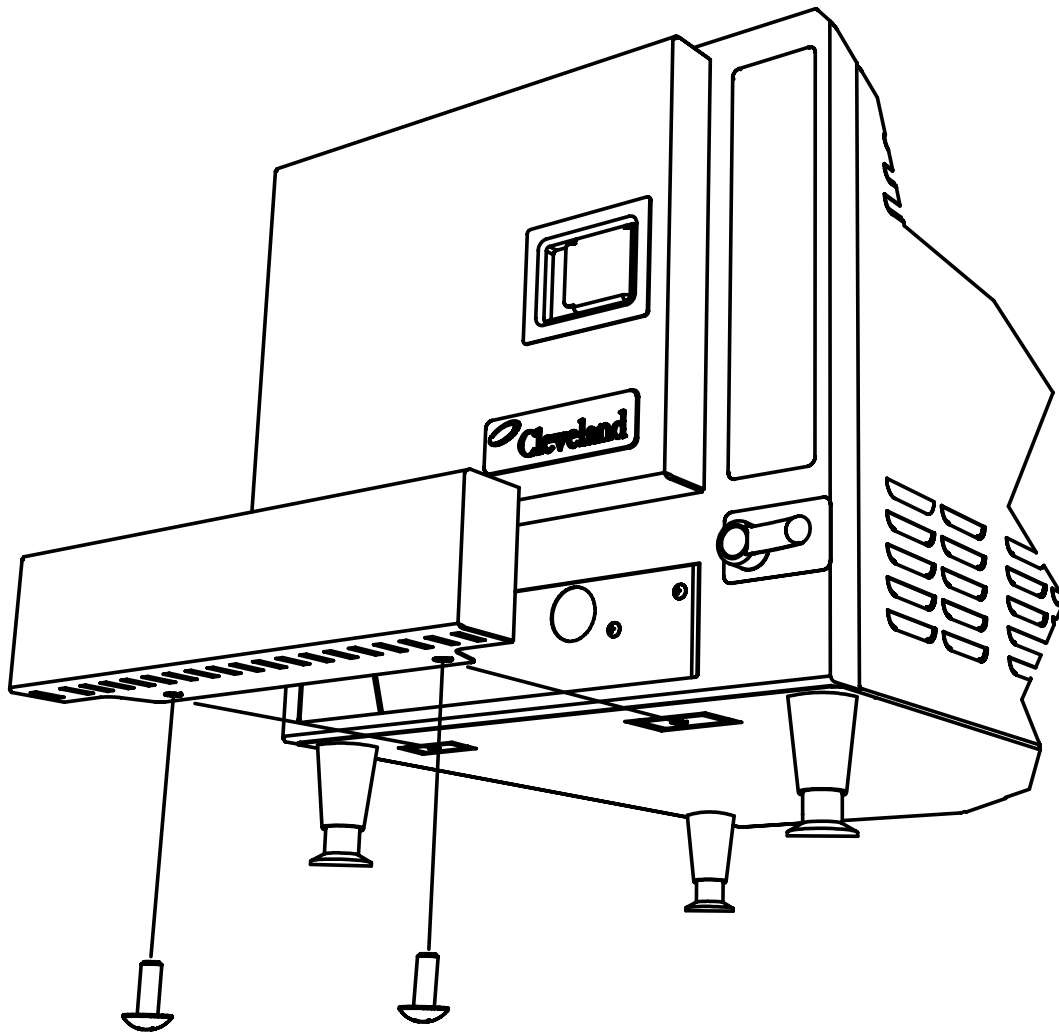

Figure 4-1
4. When the SteamChef is cool, install the Front Burner Cover and secure it with the provided screws. See Figure 4-1.
1. Remove the Front Burner Cover Retention Screws and flat washers from the bottom of the SteamChef. See Figure 4-1.